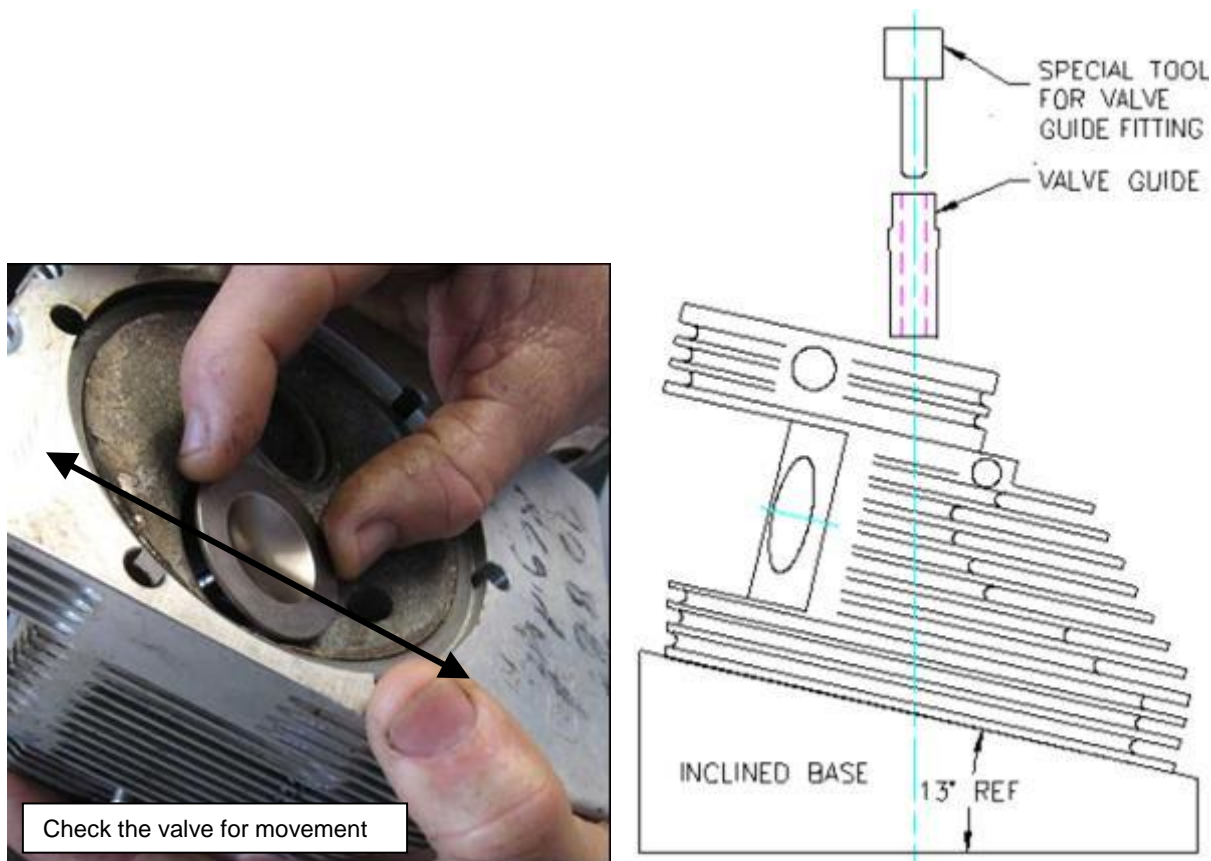

Figure 88 – Valve Guides
- **Top End Overhaul:** start by holding each valve partly open and feeling for wear in the guide as shown at right – there should only be a small amount of up and down (see direction arrow in Figure 88) movement in the head of the valve.
- **Ream the valve guide holes out carefully if required until a 0.03 - 0.05mm interference fit is obtained and then heat the head again while cooling the guides in a plastic bag in the freezer for at least an hour. Then, working quickly, drive each guide home using a suitable tool with the head supported on an inclined base, all as shown in Figure 88.**